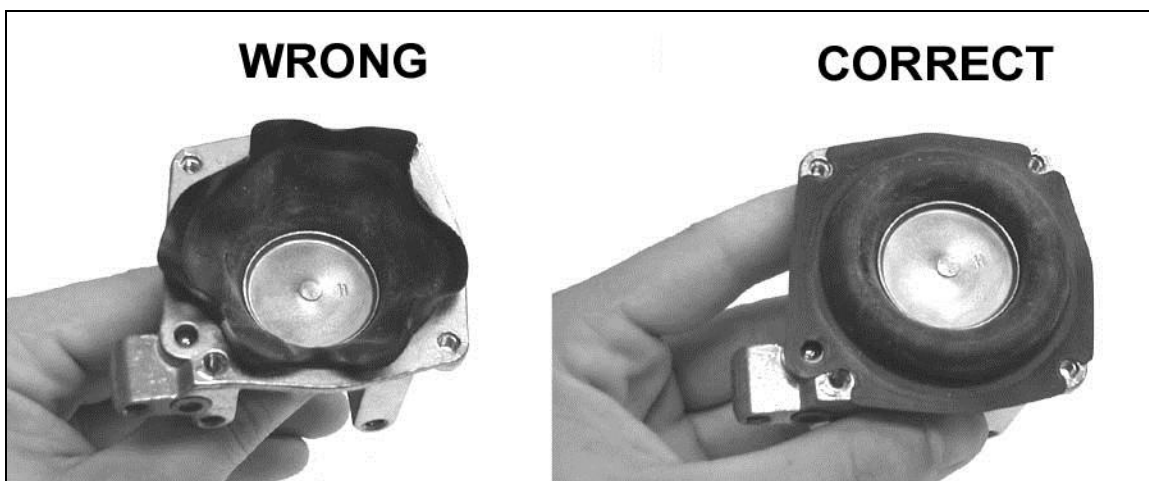

Figure 19
- TIP:** To make reassembling the diaphragm easier, push the diaphragm arm into the housing and form the diaphragm into a "mushroom" shape (Figure 19). Then position the diaphragm over the bolt holes and vacuum port. Hold the diaphragm in that position with your fingers while inserting the spring, cover, and bolts to avoid disturbing the position of the diaphragm.